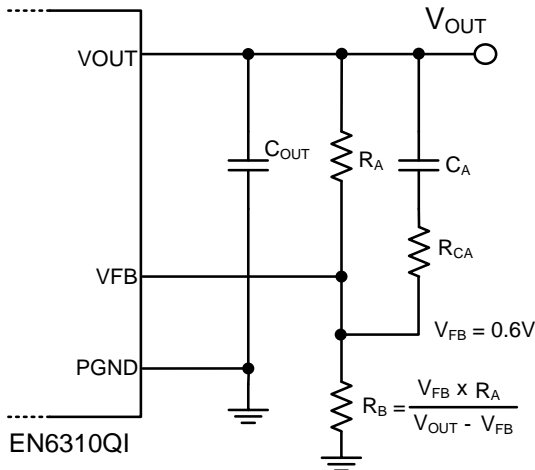

Figure 2. External Compensation
- 2) **Output Voltage Settings (J4)** – With a jumper placed as shown, output voltage is set to 1.2V. The jumper may be switched to change the output voltage from left to right (3.3V, 1.8V, 1.2V and 1.0V). The output voltage may also be adjusted by changing  $R_B$  (R4) as shown in Figure 2.